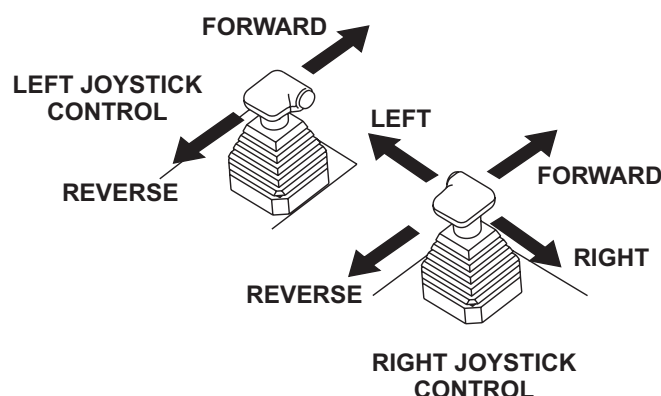

Figure 24. Left And Right Control Joysticks
Two joysticks (Figure 24) located to the left and right of the operator's seat provide directional control for the trowel. Table 6 illustrates the various directional positions of the joysticks and their effect on the trowel.
1. Push both the left and right control joysticks forward. See Figure 24.